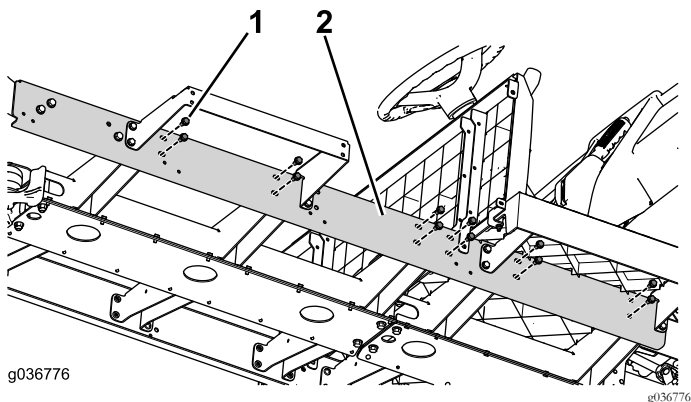

Figure 80
3. Install the remaining channel hardware (Figure 80).